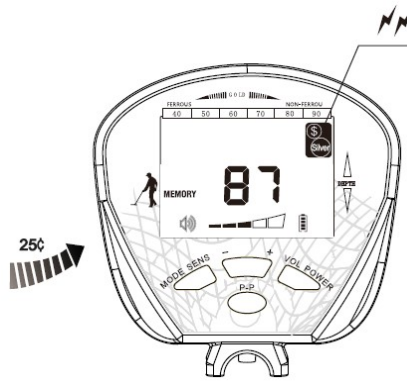

Fig.14
- e) When sweeping the other five samples, the detector does not respond. (see Fig.14, take the 25 ¢ silver coin as an example)